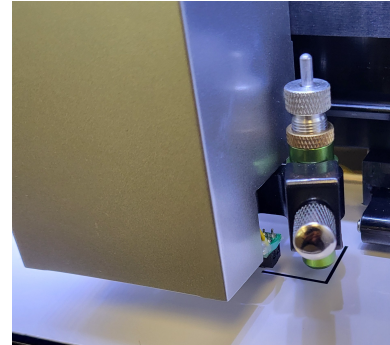

Fig. 3.2.7
- Try to load the material straight so that the front registration marks are parallel to each other on your Muse Servo's platen. Move the tool carriage so that the blade is over the lower right registration mark. The blade needs to be close to the bottom corner as shown in FIG. 3.2.7